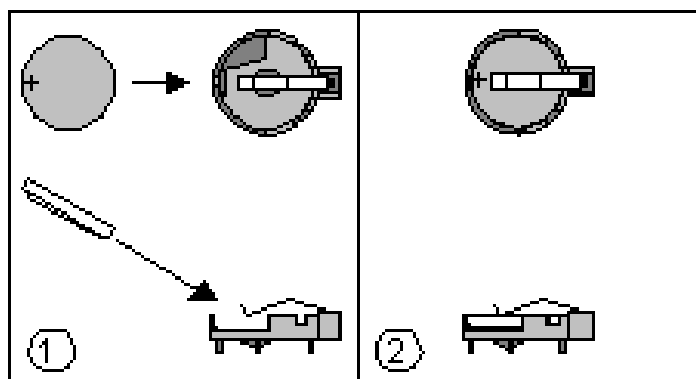

Figure 33: Removing the Battery
4. Figure 33 shows the battery location. Gently pry the battery free from its socket using flat screwdriver, taking care to note the "+" and "-" orientation of the battery (Figure 30, 2).